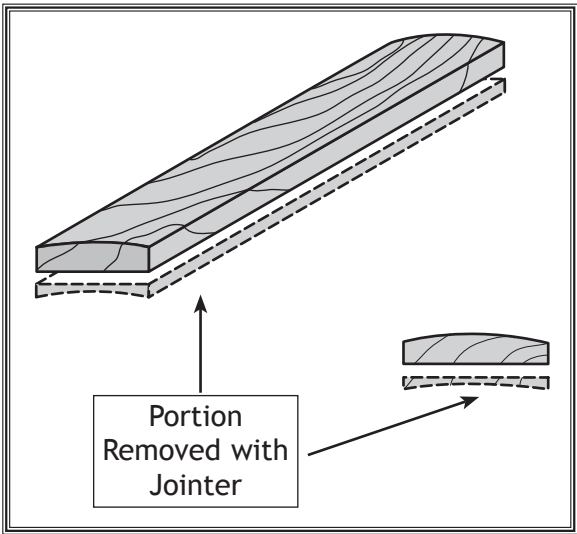

Figure 33. Face joint the concave side of cupped workpiece before milling.
- Each workpiece must have at least one flat surface to slide along the planer/moulder table. To create a flat surface, pass the workpiece over a jointer (see **Figure 33**). Defects such as twisting, loose knots or severe cracks may make the stock unusable.